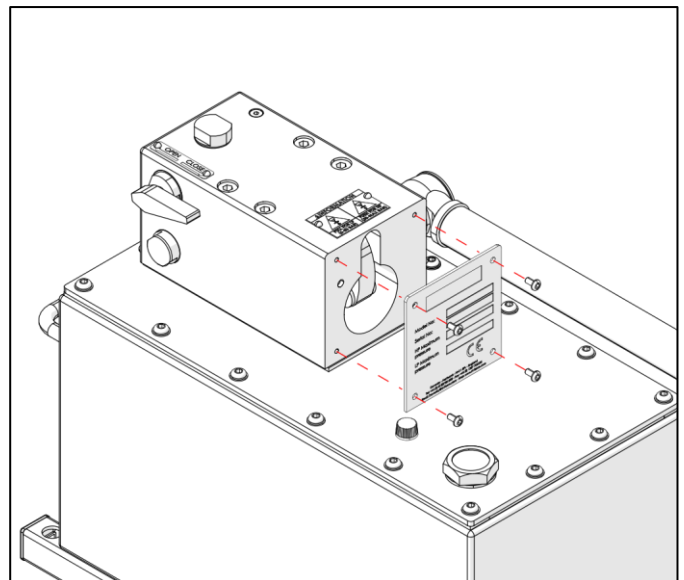

Figure 7.2: Greasing the Rocker Shaft
- Occasionally lubricate the rocker shaft with a medium grade grease. To do this, remove the back-plate and apply grease to all accessible surfaces (See figure 7.2). Replace the back-plate.